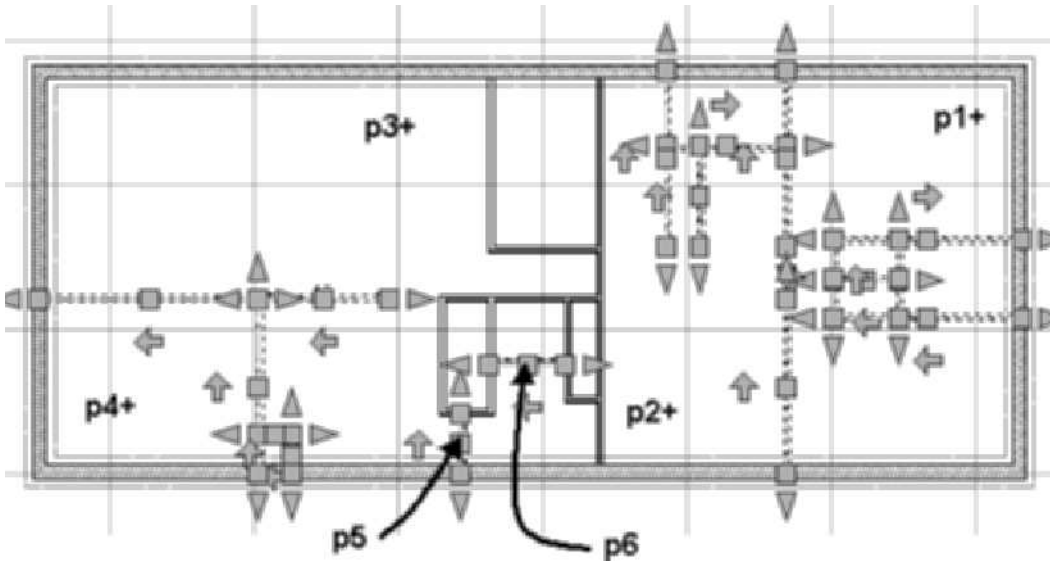

FIGURE 3.94 Walls selected for the Erase command
25. Right-click the workspace and choose Basic Modify Tools > Delete from the shortcut menu. Select the interior walls shown in Figure 3.94 to erase the walls as shown in the following command line prompts:
Select objects: Specify opposite corner: 10 found (*Create crossing selection, click near p1 and then near p2 as shown in Figure 3.94.*)
Select objects: Specify opposite corner: 5 found, 15 total (*Create crossing selection, click near p3 and then near p4 as shown in Figure 3.94.*)
Select objects: 1 found, 16 total (*Select wall at p5 as shown in Figure 3.94.*)
Select objects: 1 found, 17 total (*Select wall at p6 as shown in Figure 3.94.*)